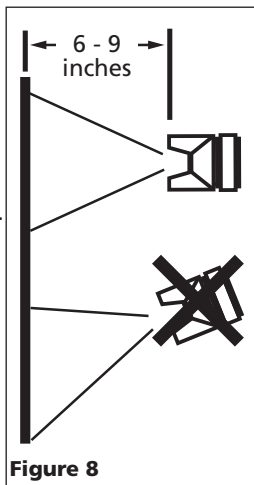

**Figure 5 - Gravity Feed Spray Gun**
5. Unscrew packing nuts and replace the packing **ONLY** if a leak will not stop when the nut is tightened (See Figure 5). Do not over-tighten a packing nut because this will restrict movement of the needle.